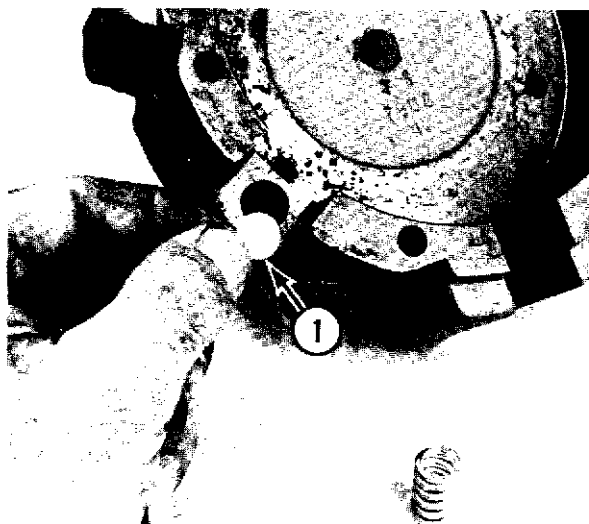

Fig. 9-12
- (2) With the clutch arm plate inverted on a work bench, insert the three spring discs (1, Fig. 9-12).